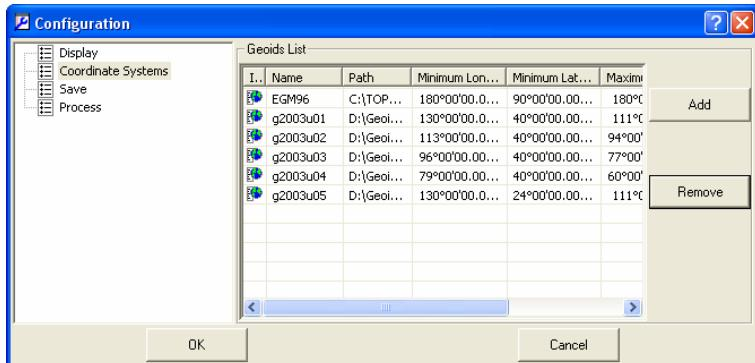

Figure 5-20. Configuration – Coordinate Systems
- To view, add, or remove available geoid files, click Coordinate Systems in the **Configuration** dialog box (Figure 5-20).